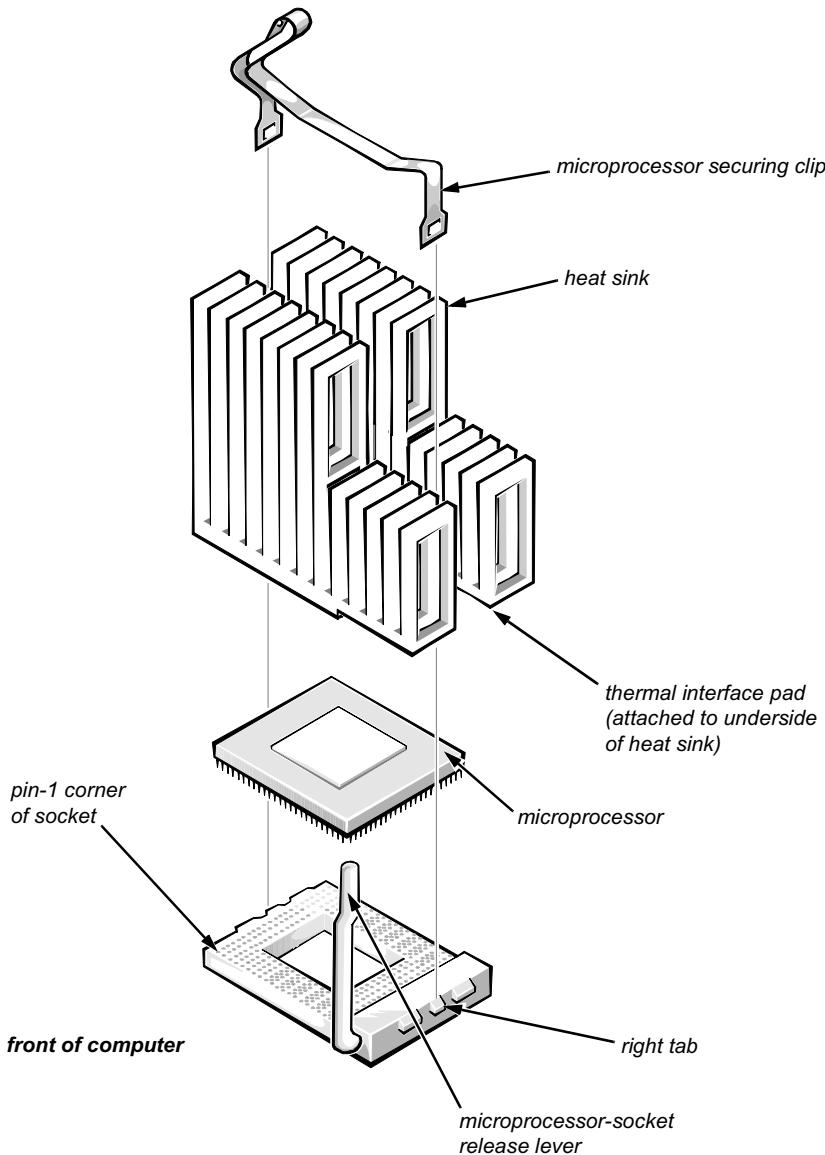

Figure 6-23. Microprocessor Removal
- 3. Push outward and then upward on the microprocessor-socket release lever to rotate the lever to its fully vertical position (see Figure 6-23).**